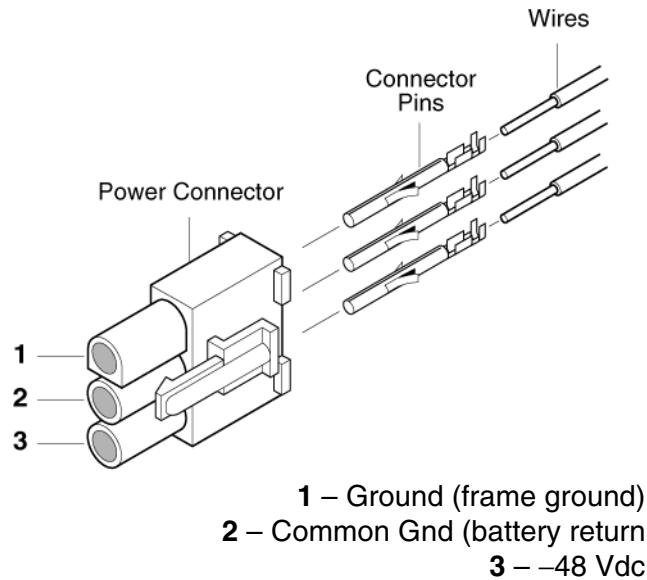

Figure C2-8. Subrack -48 Vdc power connector
- c. Position the power connector so that it matches the drawing in Figure C2-8 (the locking mechanism should face you). Take the Ground wire and grasp the wire insulation behind the connector pin. Push this wire into plug position “1” (as shown in the drawing) of the power connector until the connector pin snaps into place.